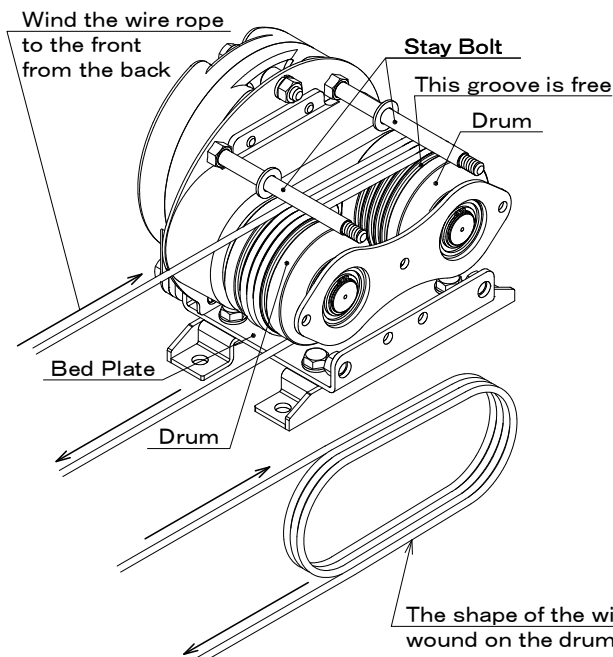

Figure 5-1 ⒶHow to wind the wire rope when taking both ends of the wire rope out of one side
- Ⓐ When taking both ends of the wire rope out of one side, the wire rope needs to be wound around the 3.5 winding drum as shown in the Figure 5-1, and then finally taken out from the bed plate side of the drum on the left. (The groove in the front of the drum on the right is free.)